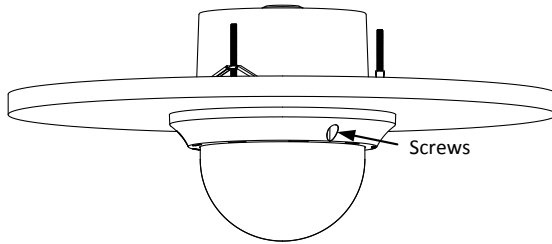

Figure 2-7 Secure the Bubble
- 4) Secure the bubble to the speed dome with three screws as shown in Figure 2-7.